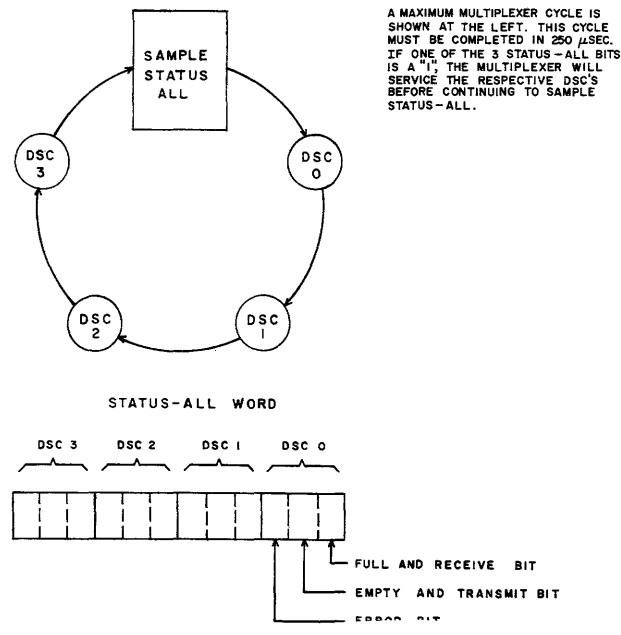

Figure 3-5. Multiplexer Cycle
- a) This enables the Empty and Transmit status bit in DSC 0 portion of status-all word (Figure 3-5).
- 2) Step 1 (Figure 3-5) transfers the first data word to the A/D register. This enables the following: